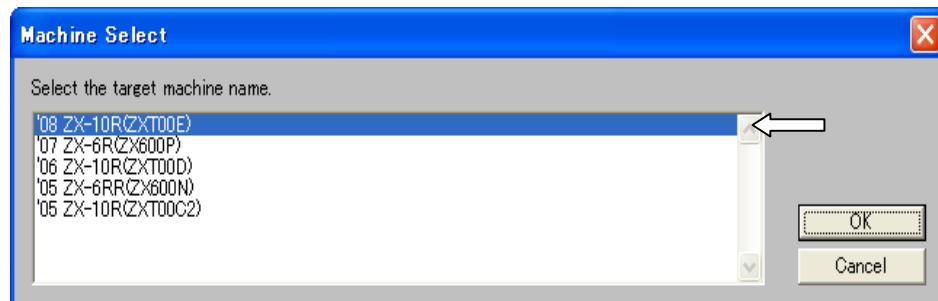

Fig. 40 Machine Select Dialog
You can change the editing data according to the target machine. To change the target machine, go to the pull down **Set** menu and select **Machine Select**. Then the Machine Select dialog shown in Fig. 40 appears.
- Selecting **Cancel** button in the Fig. 40 or Fig. 41 cannot execute the machine changing.